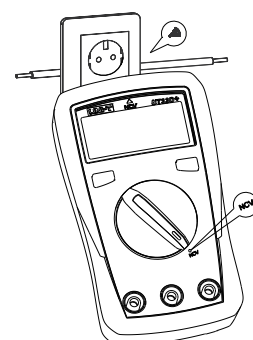

Figure 6
10. NCV measurement (only for 72-13440, see Figure 6)